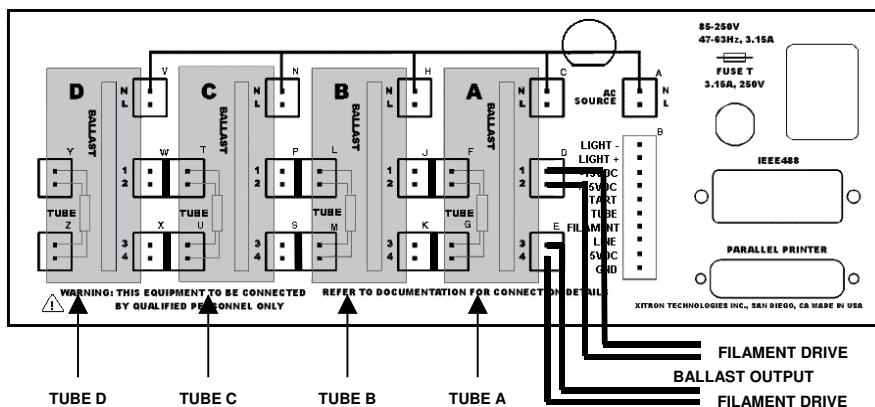

Figure 9. Example of Four-pin Load, Four-pin Ballast Output Connections
- Connect each ballast in sequence as shown in Figure 9. Use section A for ballast #1, and section B for ballast #2, etc.